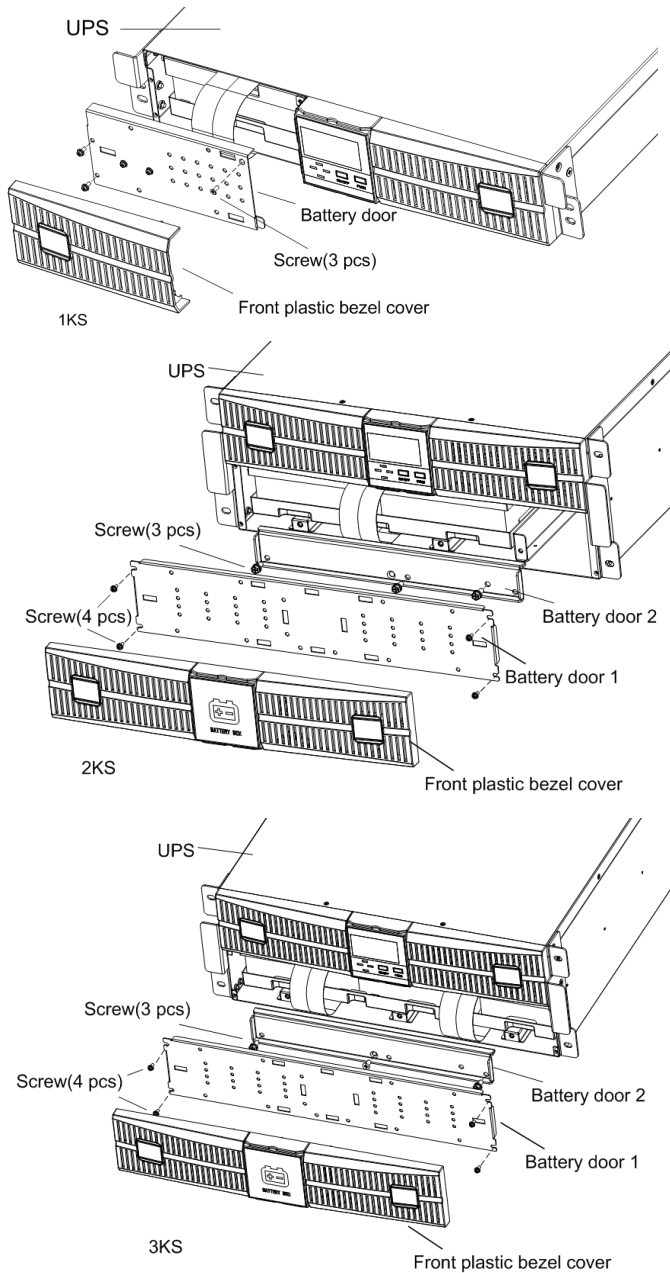

Fig.7-1 Removing the front plastic bezel cover and battery door
Step 2: Loosen and remove the screws on the battery door, as shown in Fig.7-1. Lay the battery door aside for reassembly.